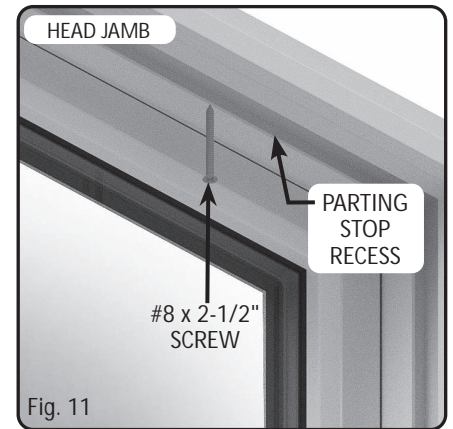

Fig. 11
- (Fig. 11) Fasten the head jamb under the parting stop through the pre-drilled holes into the existing frame, with #8 x 2-1/2" (64mm) screws.